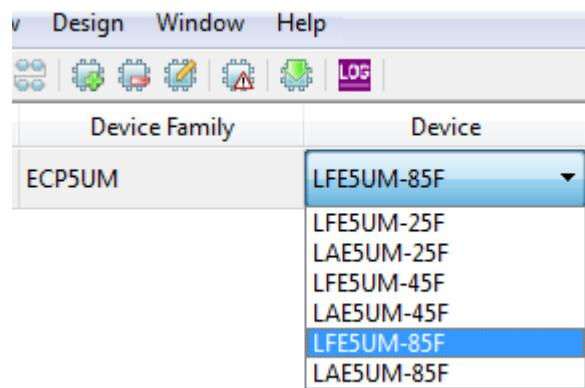

Figure 7.1. Device Selection
5. In the Diamond Programmer main interface, select the device under Device Family and Device as shown in Figure 7.1.